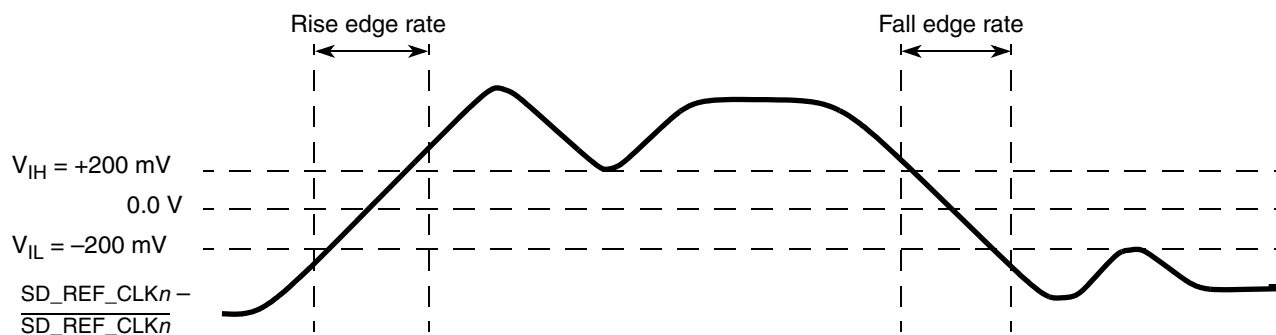

Figure 41. Differential measurement points for rise and fall time
waveform is not referenced to ground. See Figure 41, “Differential measurement points for rise and fall time,” as an example for differential waveform.
- Measured from −200 mV to +200 mV on the differential waveform (derived from SD_REF_CLKn minus SD_REF_CLKn). The signal must be monotonic through the measurement region for rise and fall time. The 400 mV measurement window is centered on the differential zero crossing. See Figure 41.